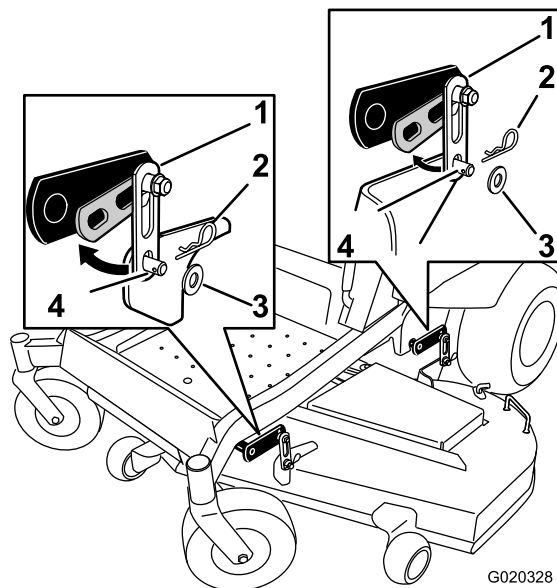

Figure 74
2. Remove the hardware from the front and rear deck hangers on both sides of the deck (Figure 74).
6. Lift the rear of the mower deck and attach the rear support on the mower deck to the rear deck hangers. Secure them with a washer and hairpin cotter (Figure 74).
7. Attach the front support on the mower deck to the front deck hangers, and secure them with a washer and hairpin cotter (Figure 74).